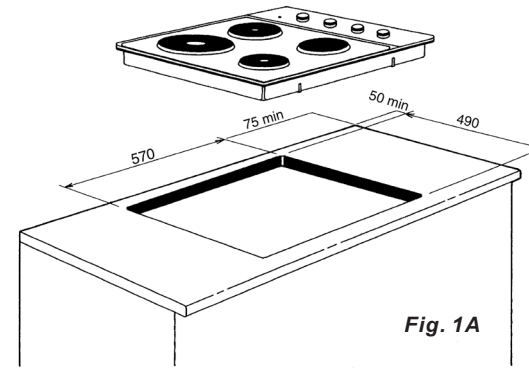

Fig. 1A
- THE BENCH CUTOUT** should be made as per diagram (Refer Fig 1A).